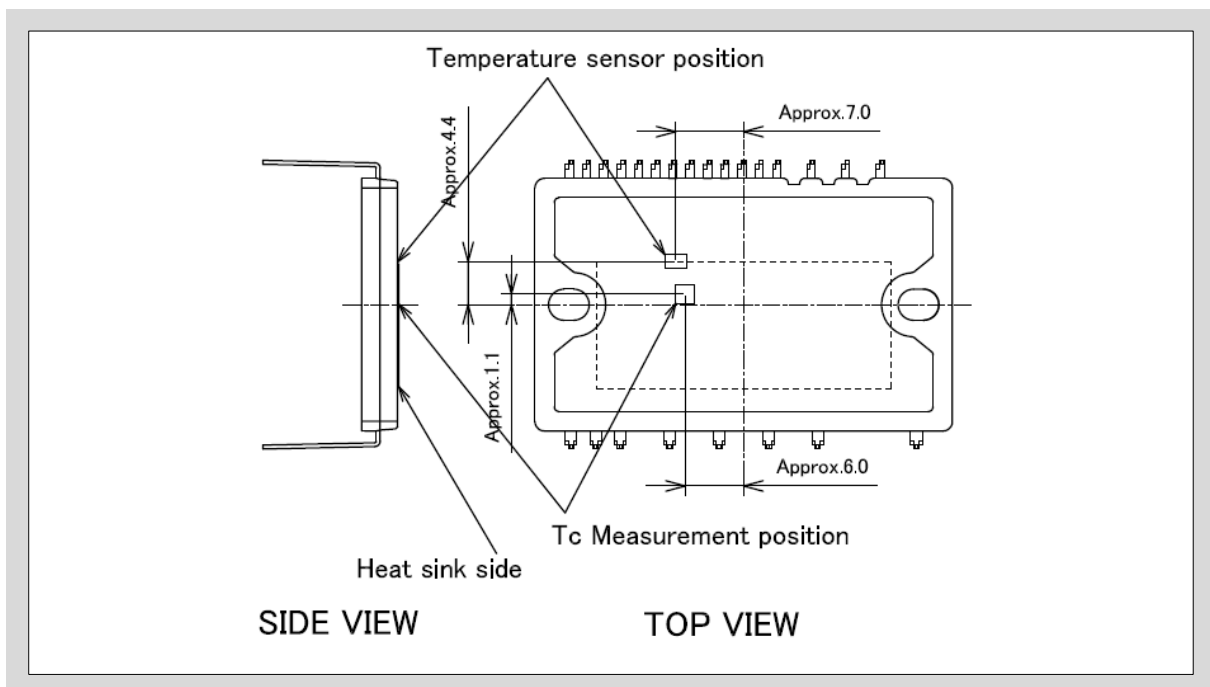

Fig. 6-1 Temperature sensing and T_c measurement points
- If the IGBT or FWD junction temperature is higher than the maximum junction temperature rating, it might cause damage to the chips. Some types of the products have the overheating (OH) protection function which works when the LVIC chip temperature exceeds the maximum junction temperature rating. However, if the temperature rises too quickly, the OH protection might not work.
- When selecting a heat sink, please verify the chip temperature T_{vj} by measuring T_c at the position shown in Figure 6-1, and calculating the T_{vj} from device power dissipation and thermal resistance. In addition, this product has a built-in temperature sensor, and T_{vj} can be confirmed by the analog voltage that is output according to the LVIC chip temperature. Please use this as a reference when selecting a heat sink.